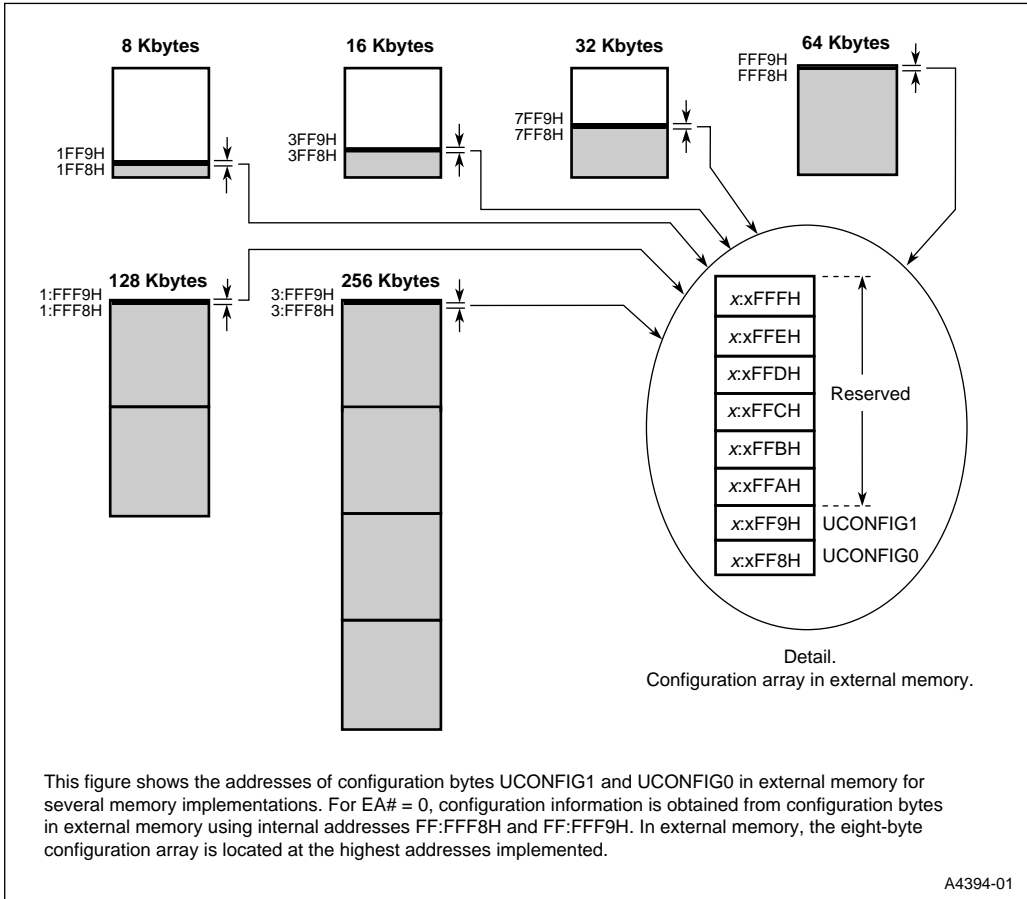

Figure 4-2. Configuration Array (External)
For devices without on-chip program memory, configuration information is accessed from external memory using these same addresses. The designer must store configuration information in an eight-byte configuration array located at the highest addresses implemented in external code memory. See Table 4-1 and Figure 4-2. When EA# = 0, the microcontroller obtains configuration information at reset from external memory using internal addresses FF:FFF8H and FF:FFF9H.
1. When EA# = 0, the reset routine retrieves UCONFIG0 and UCONFIG1 from external memory using the internal addresses FF:FFF8H and FF:FFF9H which appear on the external address bus (A17, A16, A15:0) as shown in this table. See Figure 4-2.
- Address. UCONFIG0 is the lowest byte of the 8-byte configuration array. When EA# = 1, the 8X930Ax fetches configuration information from an on-chip configuration array located in nonvolatile memory at the top of region FF:. When EA# = 0, the 8X930Ax fetches configuration information from a configuration array located at the highest addresses implemented in external memory using addresses FF:FFF8H and FF:FFF9H. The physical location of the configuration array in external memory depends on the size and decode arrangement of the external memory (Table 4-1 and Figure 4-2).
2. Address. UCONFIG1 is the second lowest byte of the 8-byte configuration array. When EA# = 1, the 8X930Ax fetches configuration information from an on-chip configuration array located in nonvolatile memory at the top of region FF:. When EA# = 0, the 8X930Ax fetches configuration information from a configuration array located at the highest addresses implemented in external memory using addresses FF:FFF8H and FF:FFF9H. The physical location of the configuration array in external memory depends on the size and decode arrangement of the external memory (Table 4-1 and Figure 4-2).